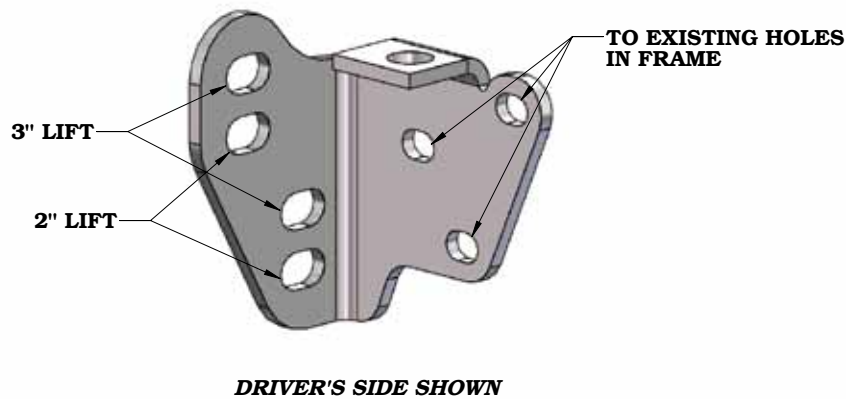

Figure 30
83. Mount the rear bumper to the new bumper brackets using the factory nuts. Use the lower set of holes for the 2" lift. Leave bumper loose. Figure 30